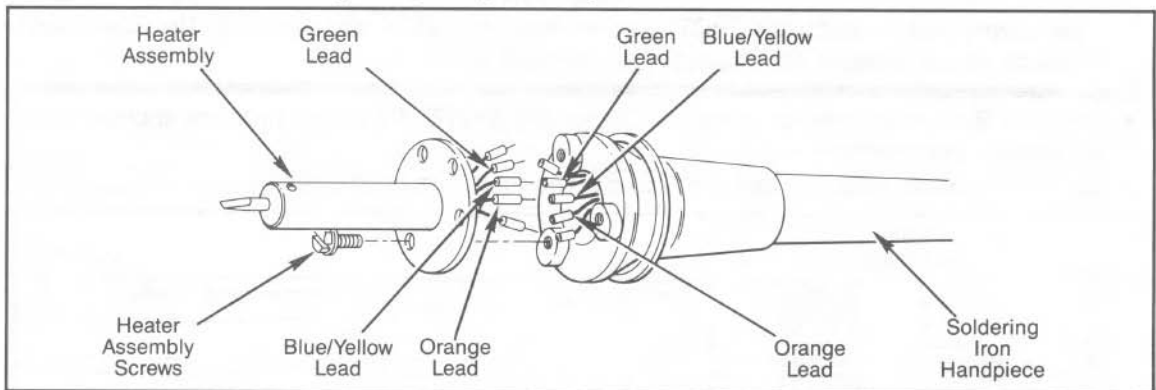

FIGURE 7. SOLDERING IRON HANDPIECE HEATER ASSEMBLY REPLACEMENT
- remove three (3) screws from Heater flange and let Heater hang loose, refer to Figure 7.